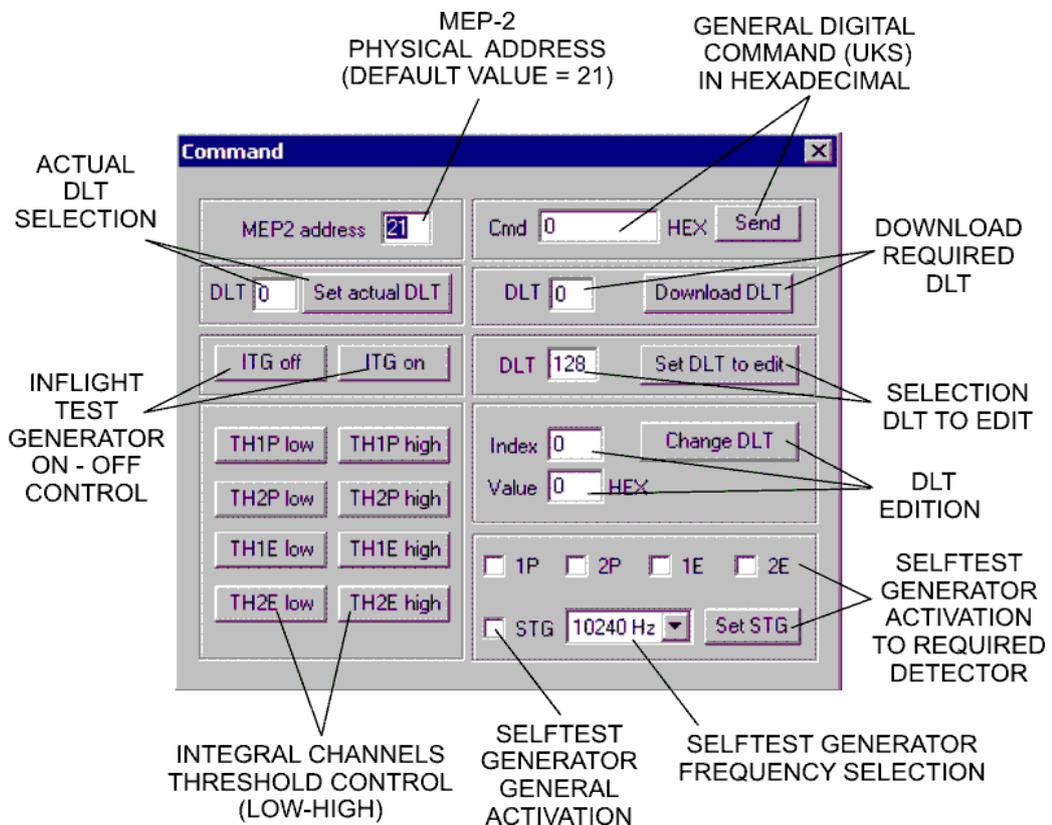

Figure 4. Command window
- Click the CMD button of graphic interface to test the digital commands (UKS) passing to the instrument. The command window will appear as described in Figure 4.